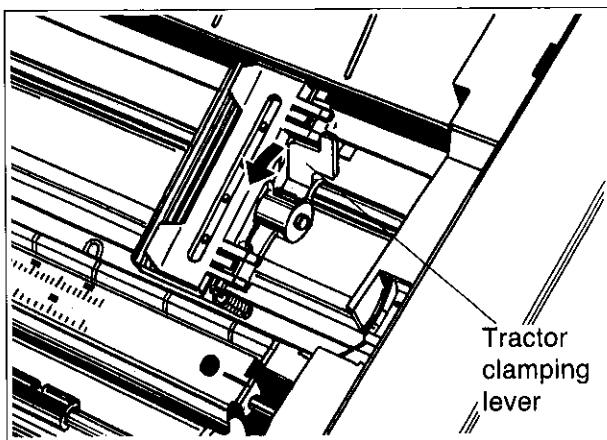

Figure 2.6B Unlocking the Tractors
- Refer to Figures 2.6B and 2.6C. Unlock the tractors by pulling forward on the tractor clamping levers.